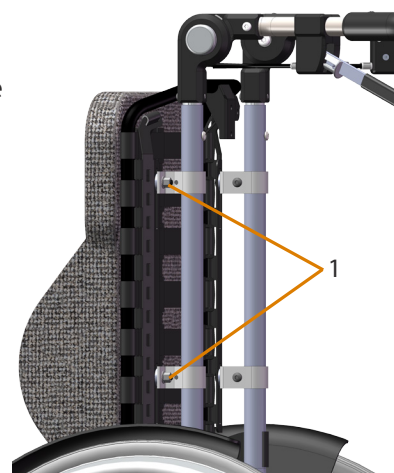

Figure 18. Nuts for height adjustment
- Loosen the two nuts on each side a few turns (1 in Figure 18).
HD Motion is width-adjustable in 3 positions. Seat width is determined by the position of the armrest mounts, see Figure 18. Table 1 show the nominal seat width for each model.